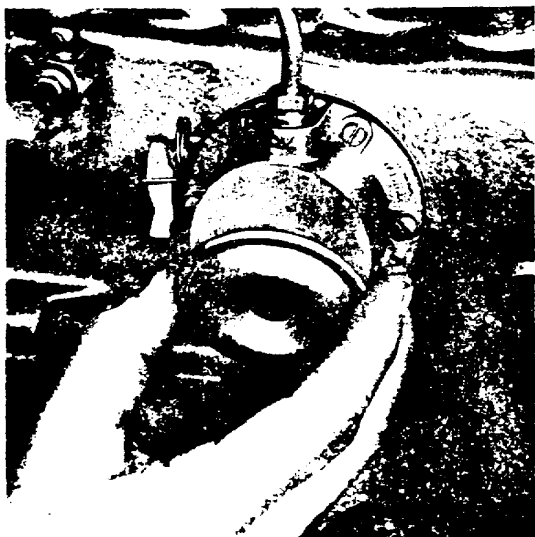

Fig. N.4.
1. Remove the fuel lift pump cover and pulsator diaphragm by unscrewing and removing the cover screw (see Fig. N.4).